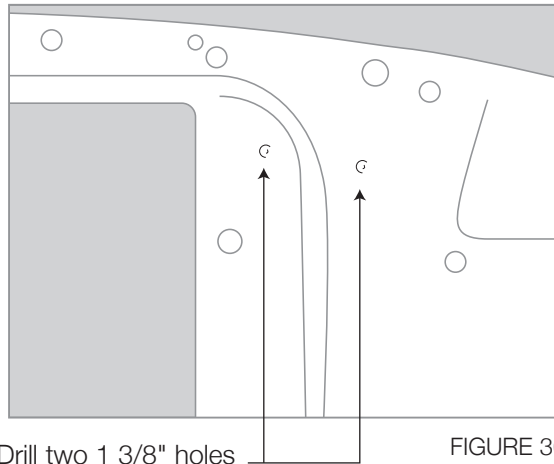

FIGURE 36
**STEP SEVEN:** Your OEM radiator support was designed to support a A/C condenser and conveniently has two small indentations on the drivers side for drilling the holes needed for this part of the installation (see figure 36, *aftermarket core supports may or may not have these indentations*). If your vehicle was already equipped with a OEM A/C, one of these holes may already be drilled. Locate these two small indentations and drill a 1 3/8" hole thru each (be sure to check for any obstructions before drilling, and remove any sharp burrs from the drilling before continuing, see figure 36). You'll notice that the hole closest to the upper condenser fitting is level with the connection fitting (the discharge hose to the compressor will go thru this hole). The other hole is to accommodate the liquid hose and the wiring harness plug for the high-pressure switch.